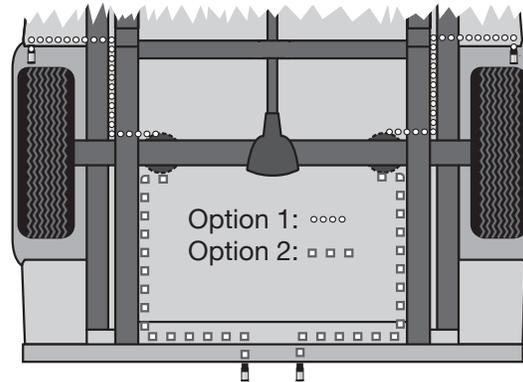

fig. 14
1. Select a location for the inflation valves in the rocker panel flange, or rear bumper, assuring that each valve will be protected and accessible with an air hose (Fig. 14).